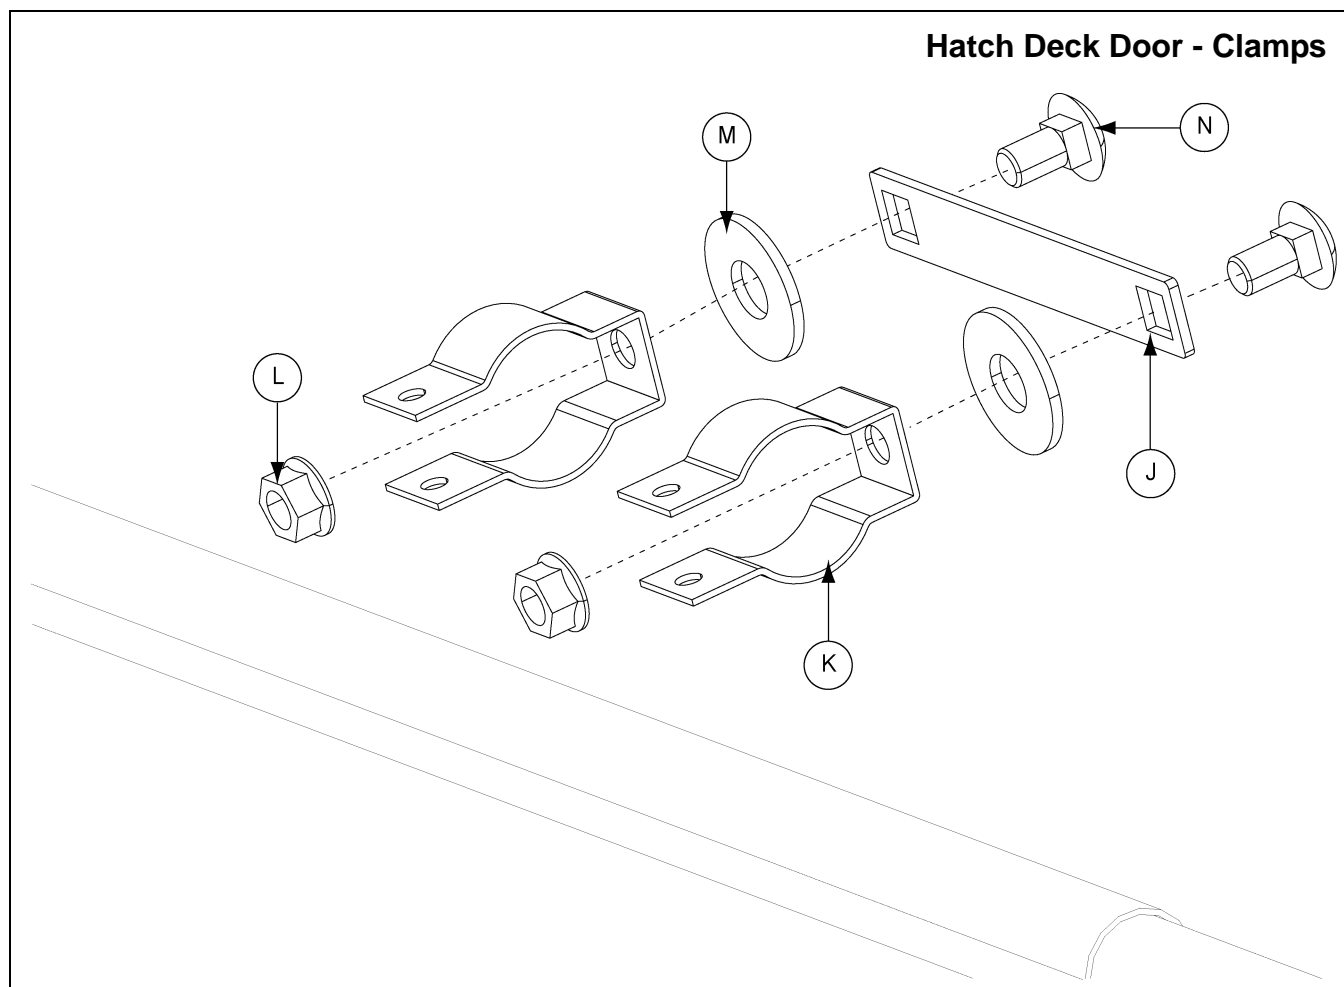

Figure 9E
7. Assemble pipe clamps (S-10139) to the magnet mount hatch bracket (HP1648LMM). Insert 3/8" x 3/4" carriage bolts through the magnet mount hatch bracket, 1/2" flat washer and pipe clamp. Fasten with 3/8" nut. (See Figure 9E.)